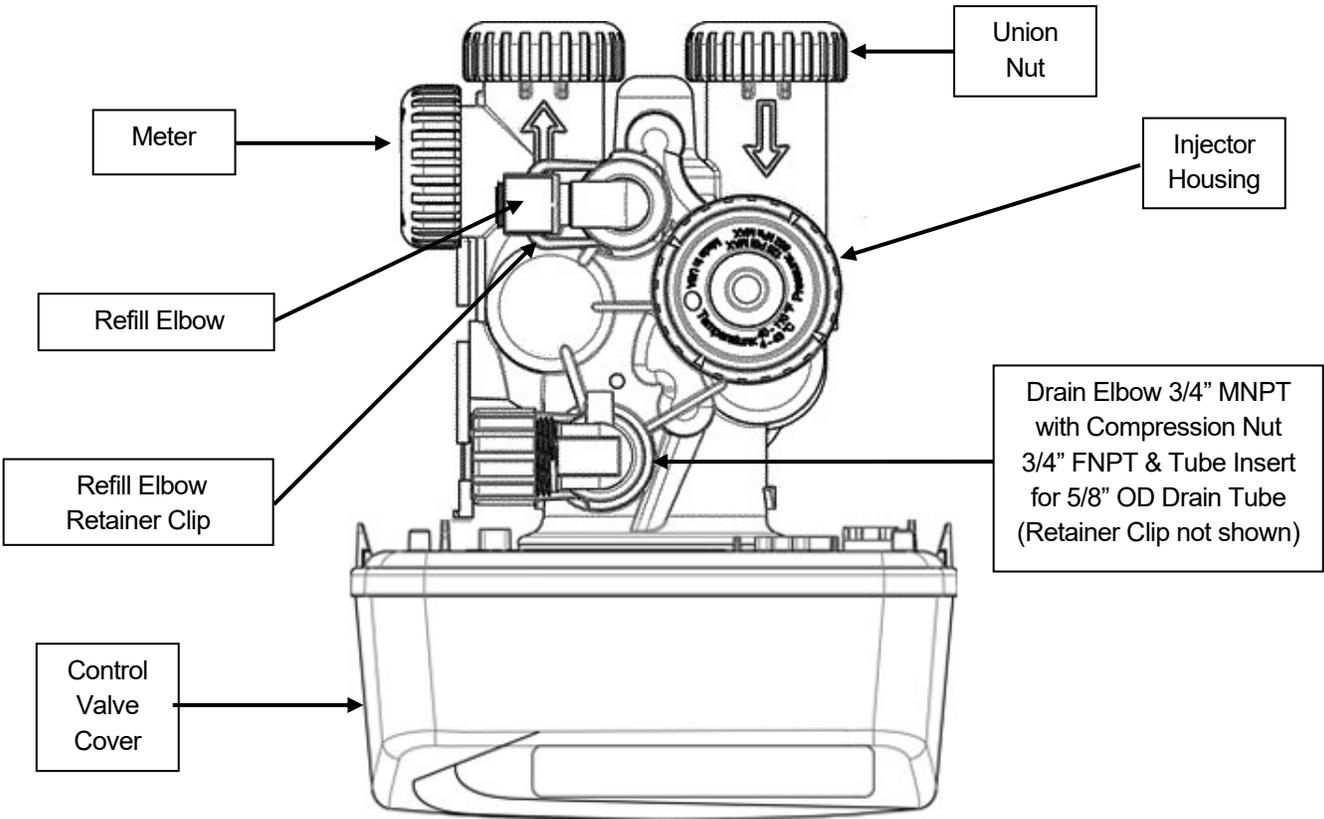
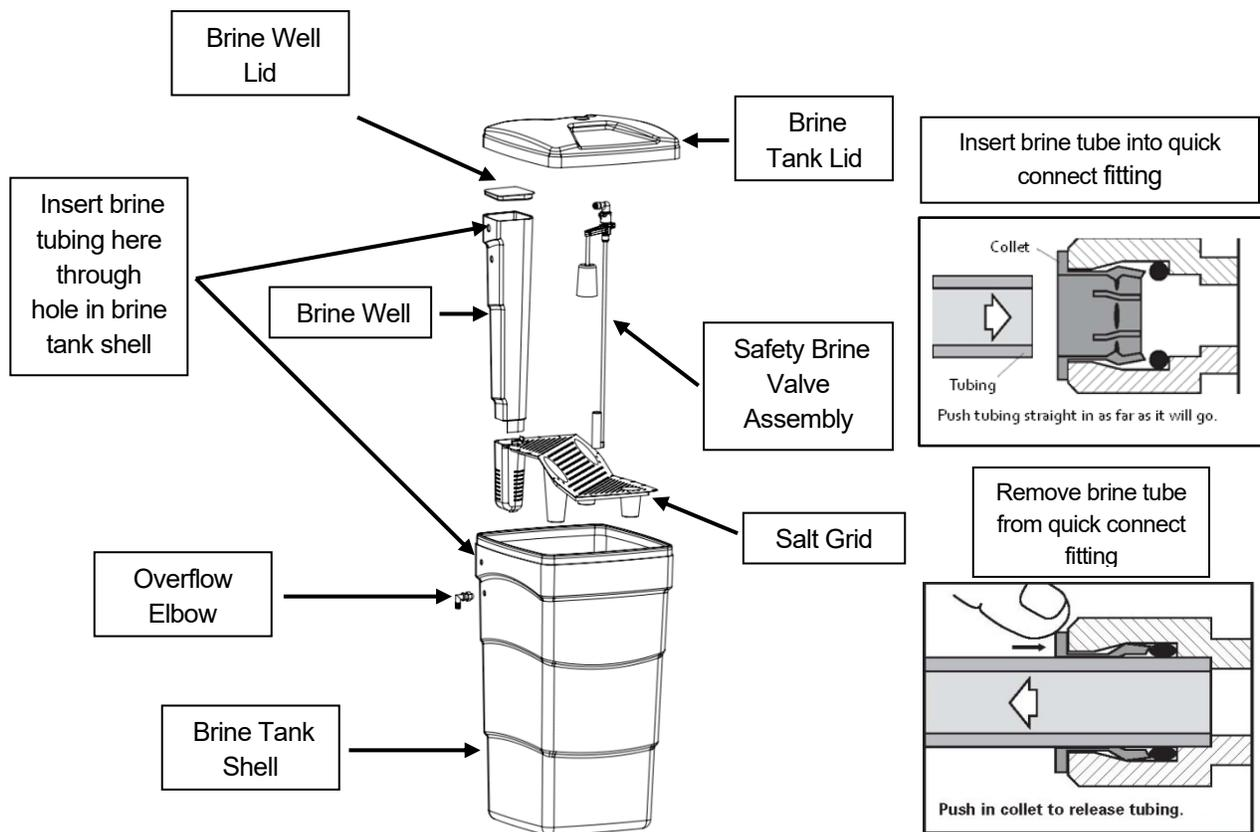

FIGURE 6b: Top View of Control Valve
FIGURE 7: Brine Tank Components
- STEP 8:** **Apply thread tape to DLFC Assembly**. Remove drain line flow control (DLFC) retainer clip (Figure 6b, Page 7) and remove the DLFC assembly from the valve body, (Figure 6b, Page 7). Apply thread tape to threads. Slide drain fitting compression nut onto provided drain tubing and place the tube insert inside the end of the tubing. Insert tubing end with insert into drain elbow and tighten the compression nut onto the thread taped elbow. Reinsert DLFC assembly into the valve body, making certain it is **FULLY** inserted before replacing the retaining clip.
- STEP 9:** **Install drain line**. Use the provided ½" I.D. polyethylene tubing (**DO NOT USE FLEXIBLE VINYL TUBING!**) to run drain line from control valve DLFC fitting (Figure 6b, Page 7) to floor drain or sump pit capable of handling the backwash rate of the filter (refer to specifications and flow rate on page 17) or discard the compression fitting and use the ¾" NPT fitting to connect a rigid pipe drain line . If backwash flow rate is greater than 7.5 gpm, use existing NPT connector with rigid drain line. There must be an air gap at the end of the drain line to prevent siphoning of wastewater. Length of drain line should be 15' or less. **AVOID OVERHEAD DRAINS.**
STEP 11: Connect one end of the 3/8" brine line to the control valve quick connect brine refill elbow (Figure 6b, Page 7). Insert the other end of the brine line through the hole in the brine tank and into the quick connect fitting on the top of the safety brine valve (Figure 7). Remove the quick connect collet retainer clip (if included) before inserting the brine line into each fitting, press the tube in very firmly and replace the retainer clip behind the collet. **NOTE: THE BRINE TUBING SHOULD BE INSERTED 5/8" INTO THE FITTING. DO NOT PUT SALT INTO THE BRINE TANK AT THIS TIME.**
STEP 12: If desired, install overflow tubing (not provided) from overflow elbow on brine tank (Figure 7) to floor drain. Tubing must be lower than the overflow elbow at all times. **DO NOT CONNECT DRAIN LINE FROM SOFTENER CONTROL VALVE TO BRINE TANK OVERFLOW. DO NOT CONNECT BRINE TANK DRAIN LINE TO THE SOFTENER DRAIN LINE.**